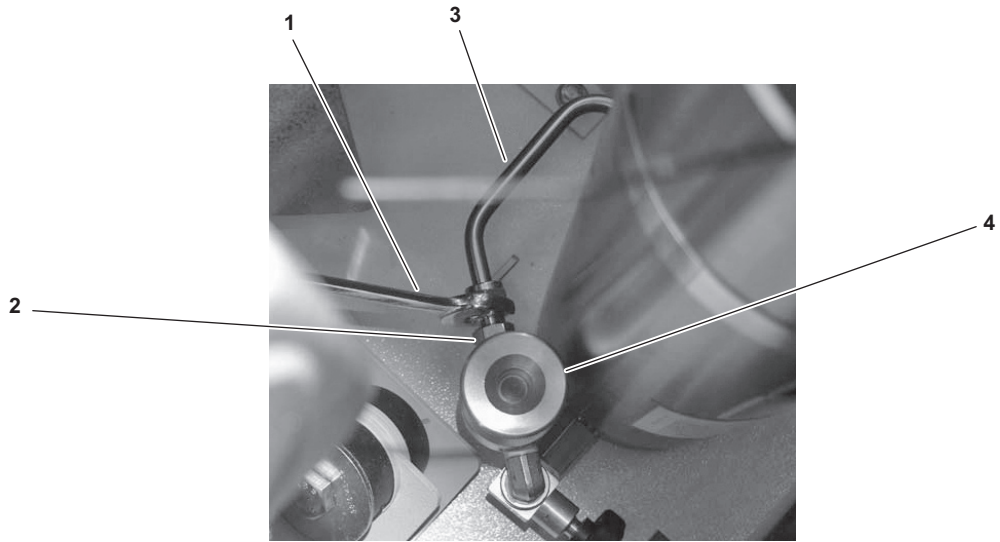
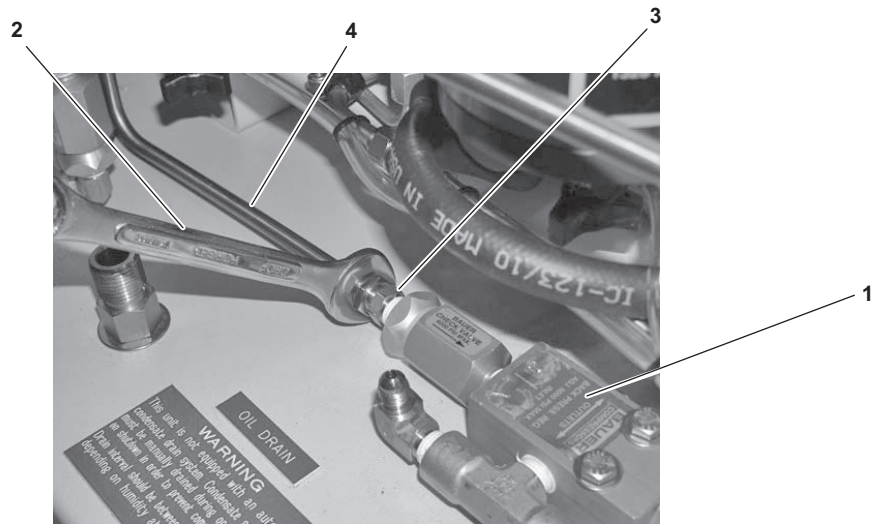

Figure 6-18. Removing Flare Fitting on Line from CO/H₂O Indicator Housing
Figure 6-19. Remove Flare Fitting on Line to Pressure Maintaining Valve
- (1) Using a 5/8 inch wrench (figure 6-18, item 1), loosen (CCW) and remove the flare fitting (figure 6-18, item 2) on the line (figure 6-18, item 3) connecting the CO/H₂O indicator housing (figure 6-18, item 4) to the pressure maintaining valve (figure 6-19, item 1).
- (2) Using a 5/8 inch wrench (figure 6-19, item 2), loosen and remove the flare fitting (figure 6-19, item 3) on the line (figure 6-19, item 4) going from the CO/H₂O indicator housing (figure 6-18, item 4) to the pressure maintaining valve (figure 6-19, item 1). Set the line aside.